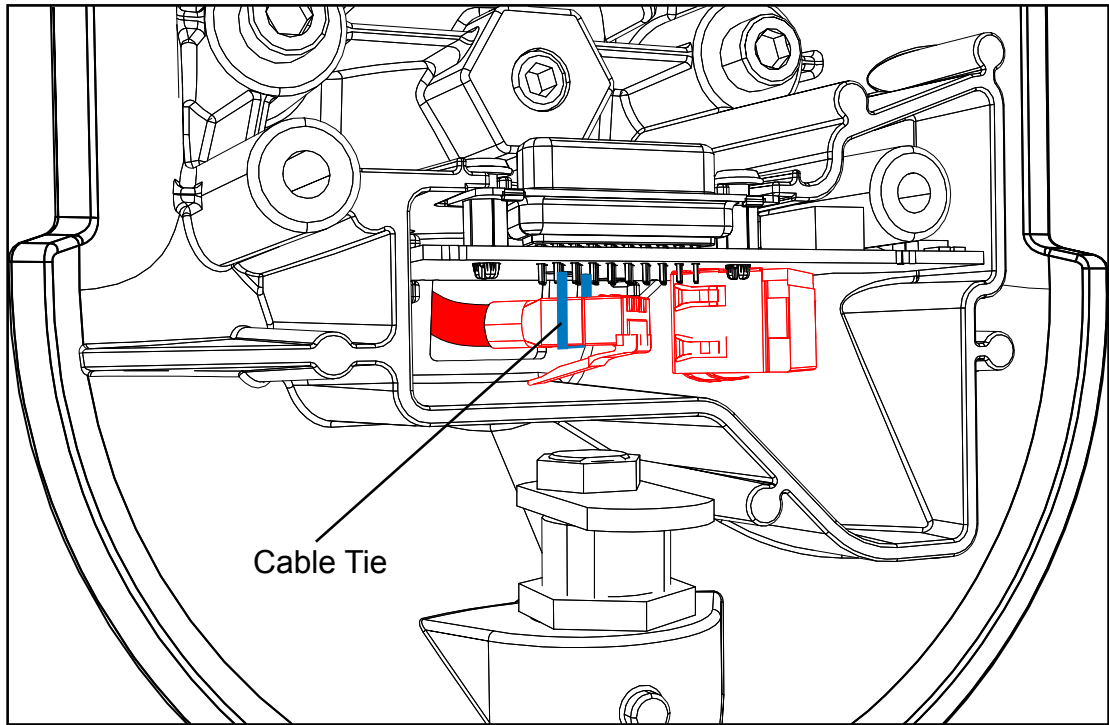

Figure 4-19 Wiring Connections
- STEP 2:** Cut the cable tie and remove the power/network cable as shown in **Figure 4-19**.
- STEP 5:** Place a new OV|41 mounting unit near the proper mounting position and connect the power/network cable as shown in **Figure 4-19**.